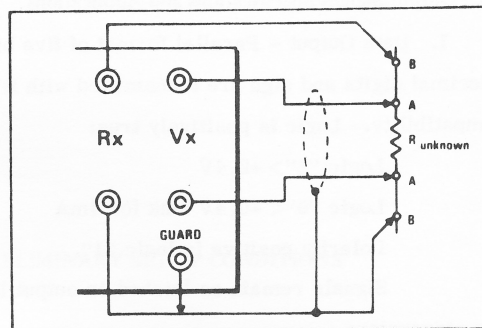

Figure 2-5. Four-Wire Resistance Measurement
2. Connect the Vx terminals to inner connection points, A, of the unknown resistor as shown in Figure 2-5.
3. Connect the current source and sink to the outer connection points, B, of the unknown resistor as shown in Figure 2-5.
4. Connect guard to the low side (current sink) of the circuit as shown in Figure 2-5.